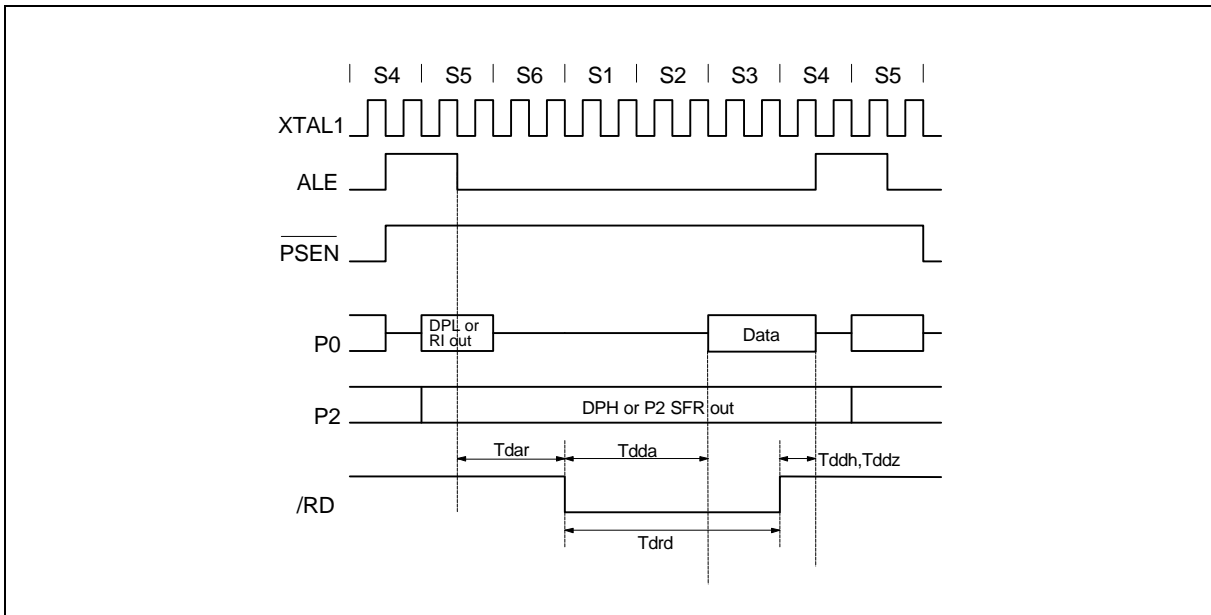

Figure 7. External Data Memory Read Cycle
**Data Read Cycle****External Data Memory Read Cycle** (see Figure 7)